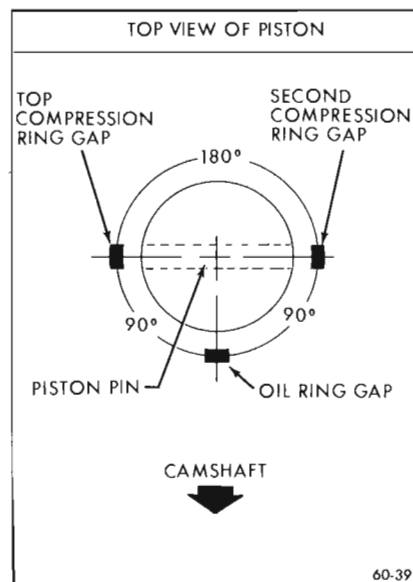

Figure 60-39—Ring Gap Positioning
13. Make sure the gap in the oil ring rails is "up" toward center of engine and the gaps of the compression rings are positioned as shown in Figure 60-39.